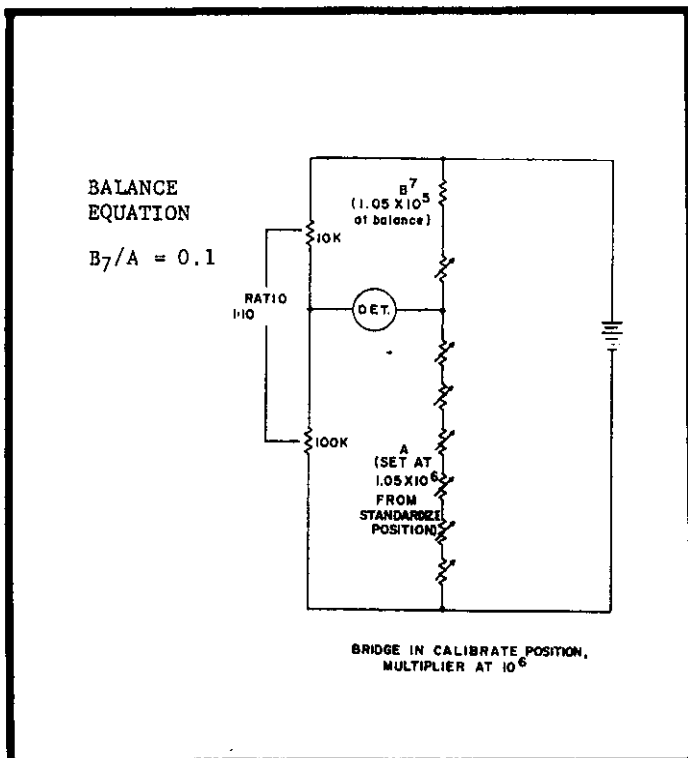

FIGURE 10.
3. A simplified bridge circuit with FUNCTION switch in CALIBRATE is shown in Figure 10